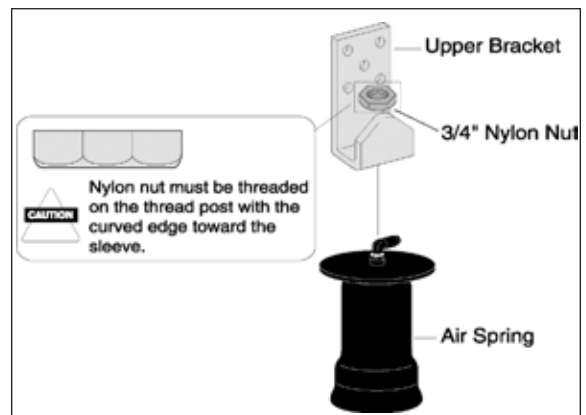

Figure 5
3. Slide the nylon nut (K) over the air fitting and onto the thread post, making sure that the flat side is up (Figure 5).